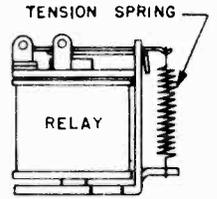

Fig. 4
4. The relay tension spring is disconnected. (See Fig. 4)